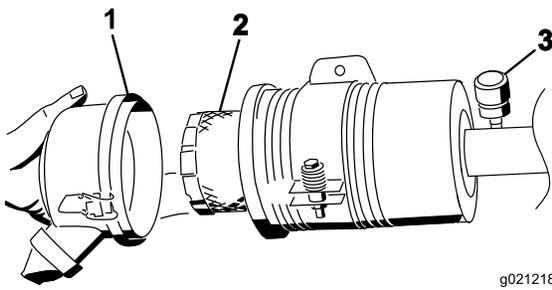

Figure 35
3. Remove and replace the filter (Figure 35).